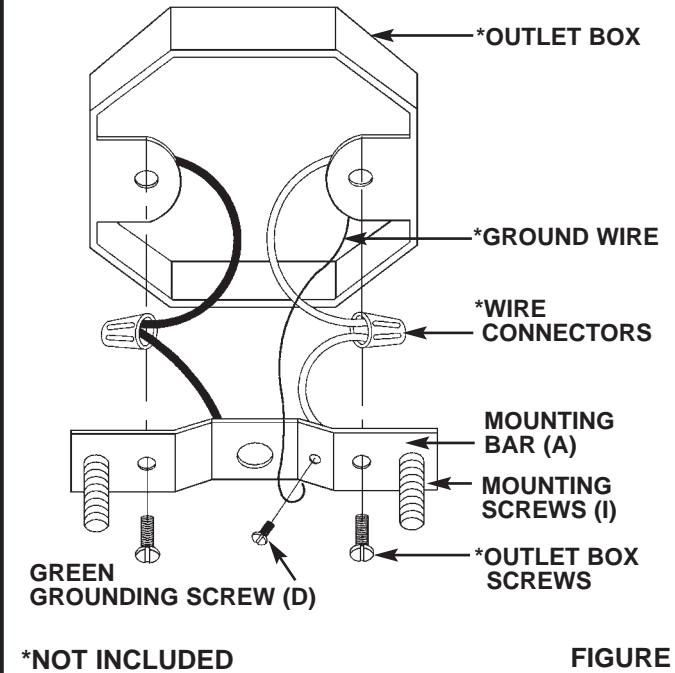

FIGURE 2
**GROUNDING INSTRUCTIONS:** The green grounding screw (D) is to be inserted into the hole with two raised dimples provided on the mounting bar (A). Wrap the ground wire from the fixture (if supplied) and the ground wire from the outlet box (bare metal or green insulated wire) around the green grounding screw (D) on the mounting bar (A). If uninsulated ground wire is on the mounting bar, connect the ground wire from the fixture (if supplied) and the outlet box to it using a small wire connector (not supplied) (See Figure 2).